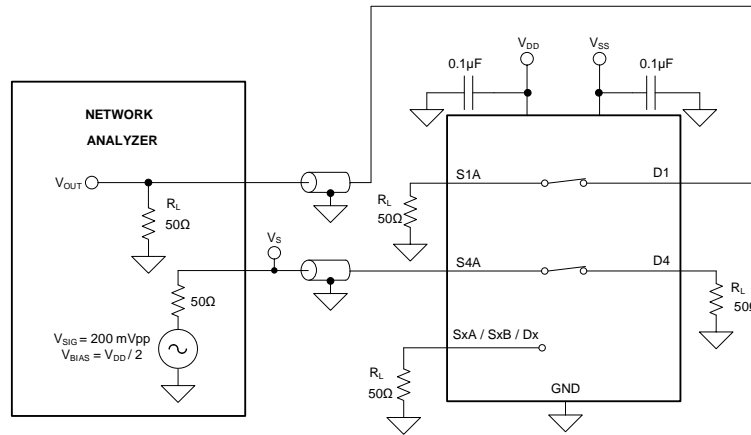

Figure 24. Crosstalk Measurement Setup
Crosstalk is defined as the ratio of the signal at the drain pin (D) of a different channel, when a signal is applied at the source pin (Sx) of an on-channel. Figure 24 shows the setup used to measure, and the equation used to calculate crosstalk.